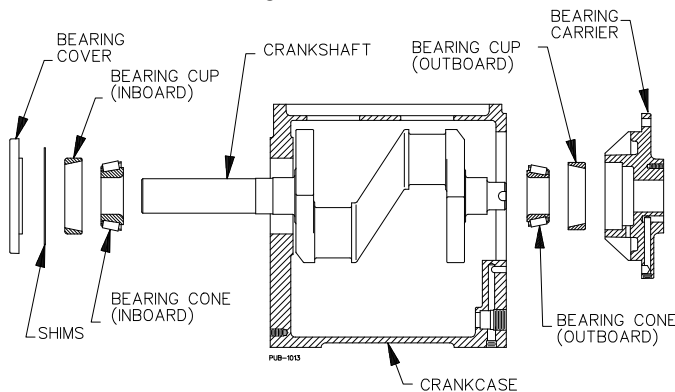

Figure 15 - Bearing Locations
- b. Referring to Figure 15 for the proper orientation, carefully press the inboard bearing cup into the crankcase until it is flush with the outer surface of the crankcase.